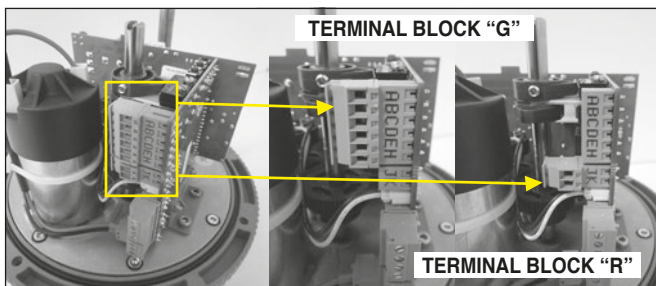

Fig.4 Control/logic board and particular of terminal blocks "G" and "R"
6.2 Auxiliary switches wirings (Fig.4)